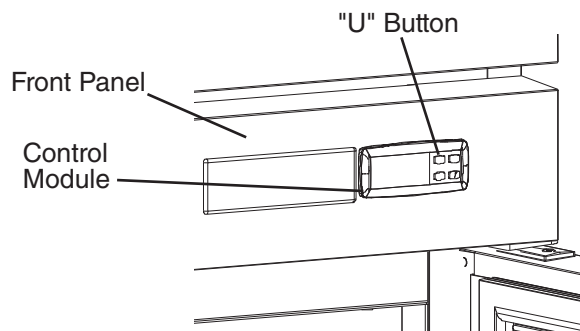

Fig. 32
- 2) If the cabinet temperature is not displayed on the control module, press and hold the "U" button (on/off button) for 2 seconds. See Fig. 32.